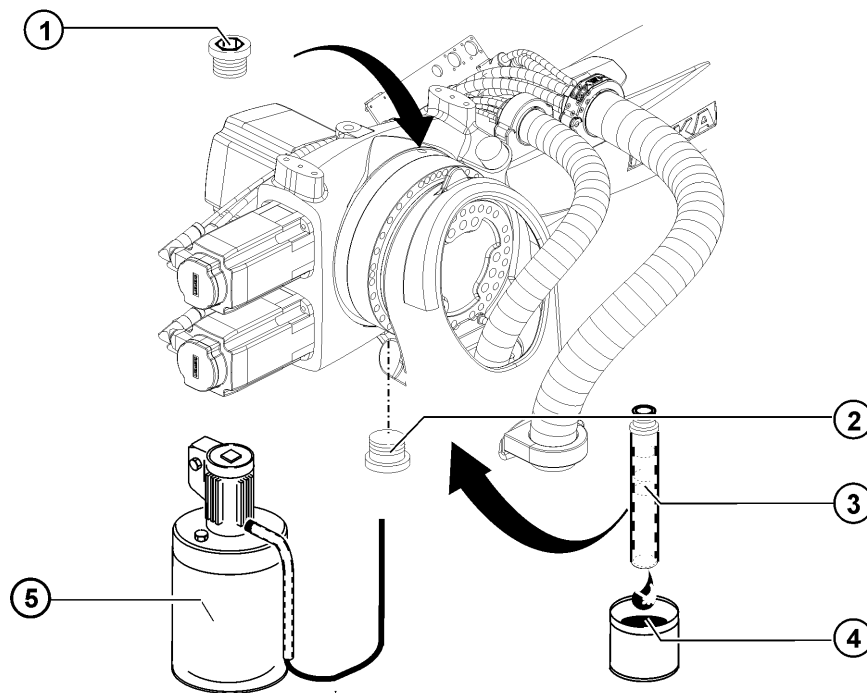

Fig. 9-5: Oil change, A3
1. Place a suitable receptacle (>>> Fig. 9-5) under the (lower) magnetic screw plug and remove the magnetic screw plug.